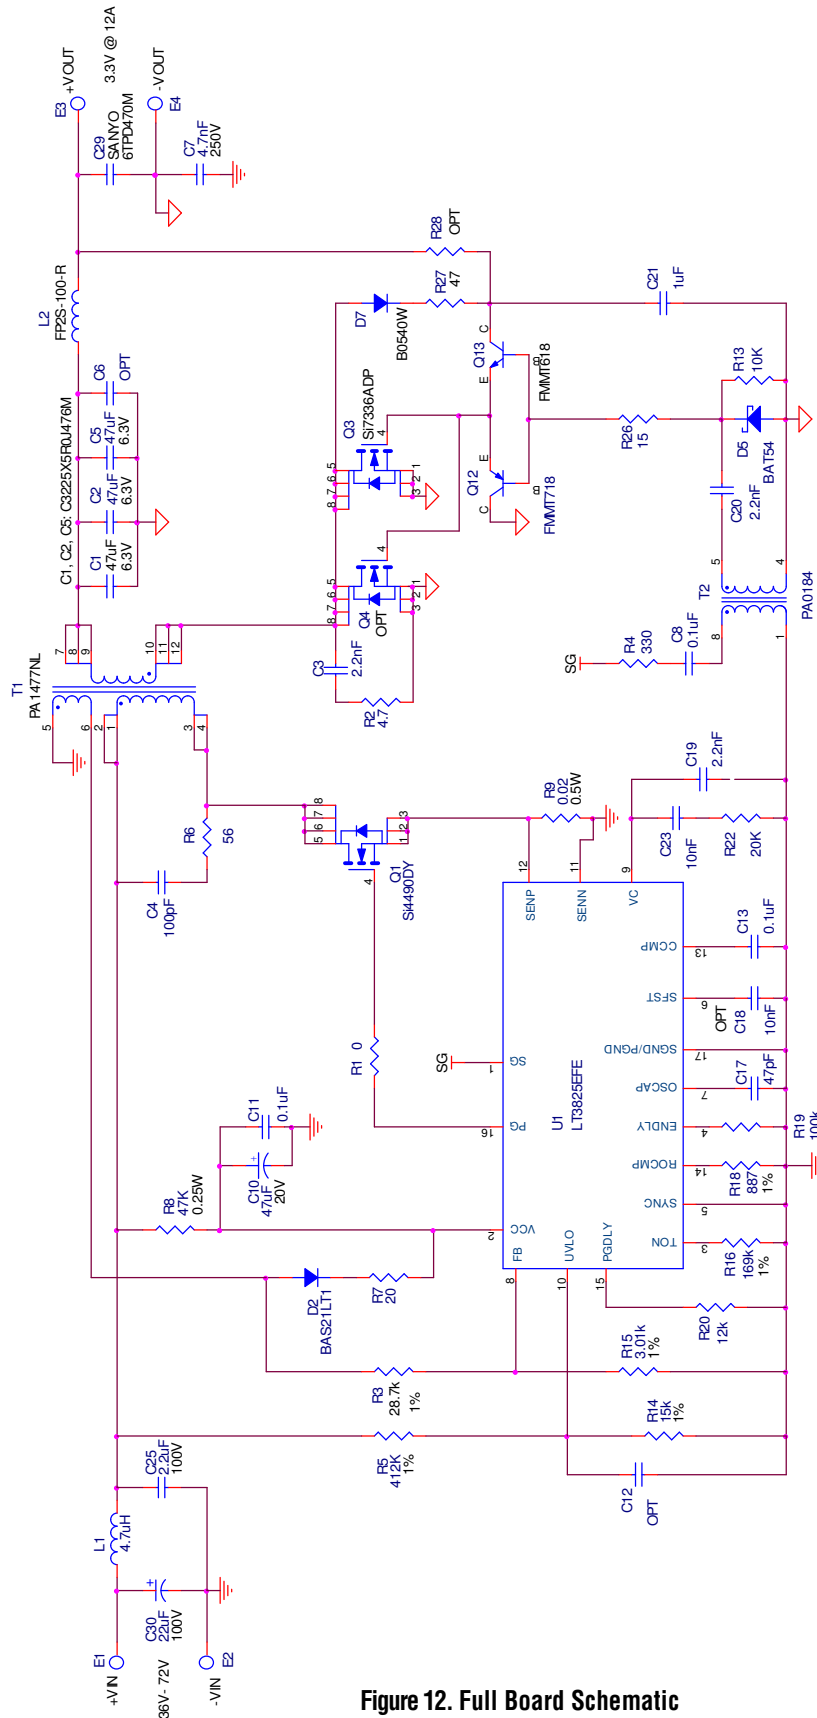

Figure 12. Full Board Schematic
The LT3825 controller exhibits a self-starting capability. When an input voltage is applied, a trickle charge resistor, R8, charges C10 (See Figure 12) to power V_{CC}. Then, the IC begins a controlled soft-start of the output voltage. As this voltage begins to rise, V_{CC} power is quickly taken over by T1, D2, and R7. When the soft-start period is over, the LT3825 then regulates output voltage by observing the pulses across the auxiliary winding of T1 during the flyback time. The Primary Gate drive (PG) and Synchronous Gate drive (SG) is then Pulse Width Modulated (PWM) in